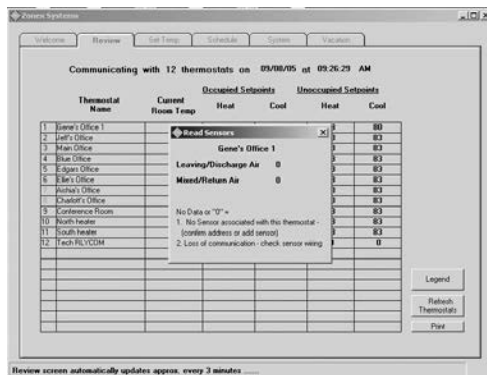

Fig. 17
- A. Place the cursor directly over a **Current Room Temperature** thermostat number with a **SENDCOM** attached, and double click on it (see Fig. 17).